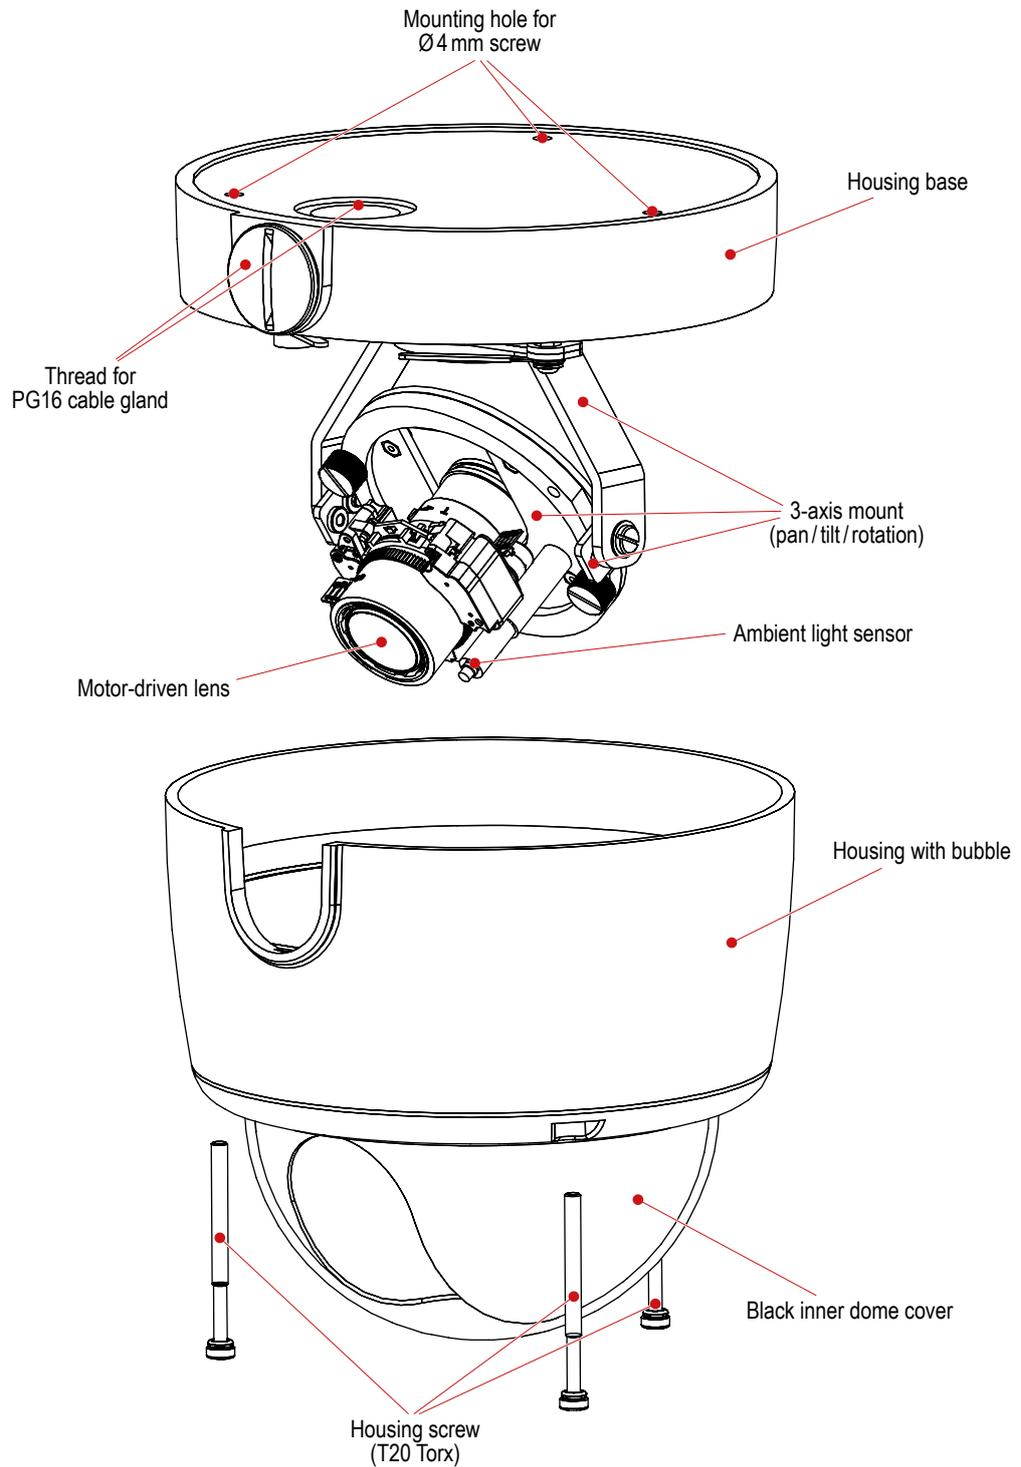

Fig. 5-3
- Unscrew the 3 housing screws (Fig. 5-3) using a T20 torx wrench and remove the housing.